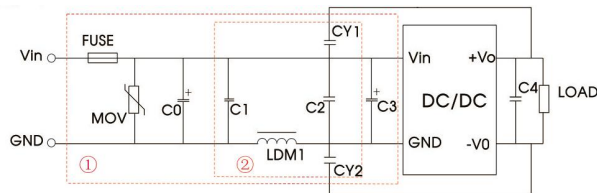

Fig.7
Notes: We use Part ① in Fig. 7 for immunity and part ② for emissions test.